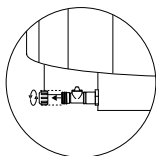

Figure 13.5b
2. Unscrew the cap from the spa drain, Figure 13.5b.